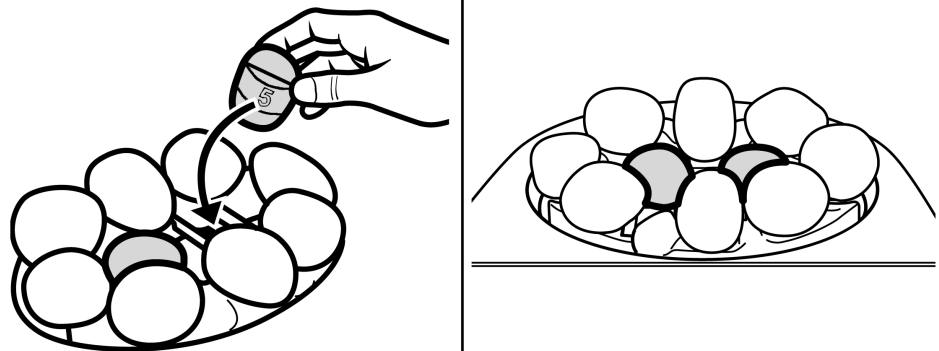

Figure 34 Pebble number '5' Location
8. There are two pebbles numbered '5'. They have a central location peg on the underside. Locate the first pebble '5' centrally between the left hand ceramic support rods (See figure 34). Locate the second pebble '5' centrally between the right hand ceramic support rods (See figure 34)